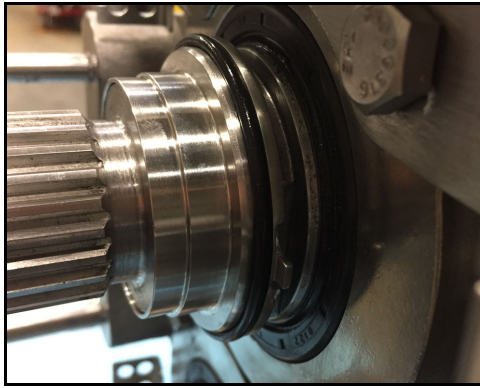

Figure 107 - O-ring installed
27. Figure 107 shows the rotary seal O-ring installed on the shaft.